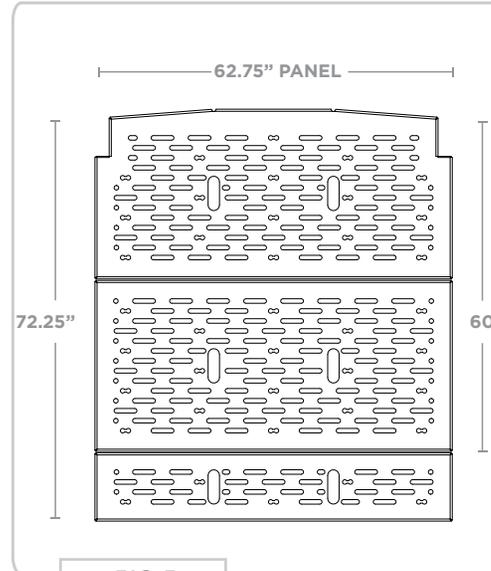
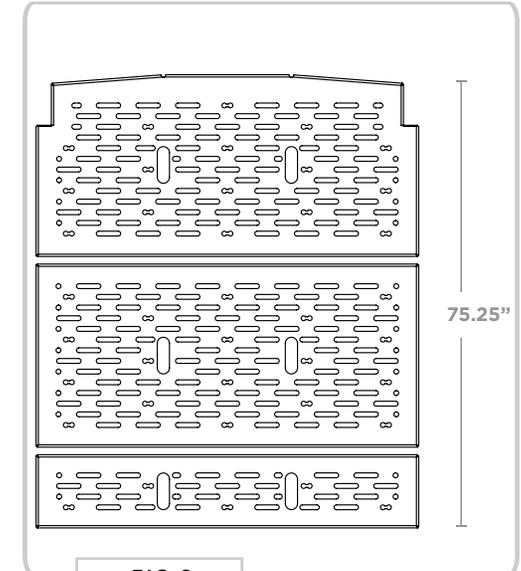
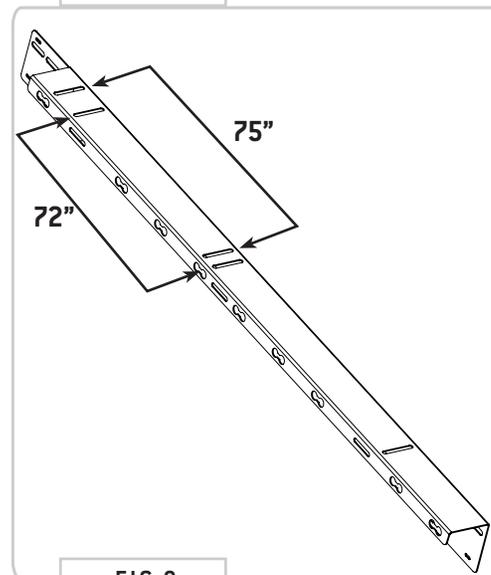

FIG 7
FIG 8
FIG 9
**NOTE** - There are two series of mounting slots on the top side of the rails. You have the option for a **72.25" bed (FIG 7)** or a **75.25" bed (FIG 8)** for you taller folks! See **FIG 9** for slot locations.